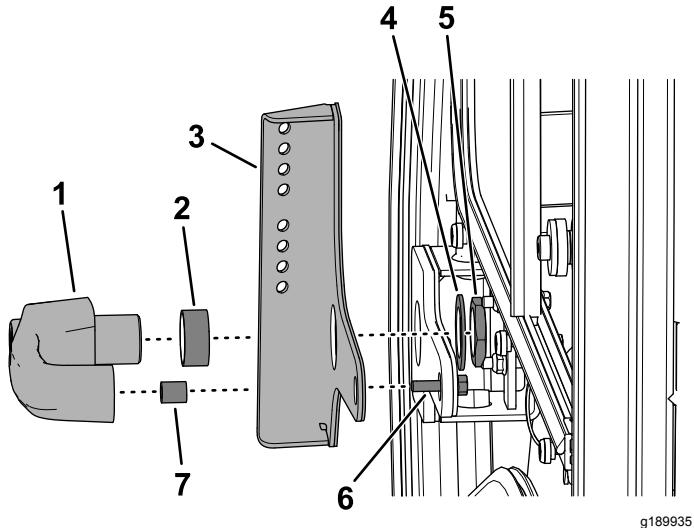

Figure 4
5. Install the door handle using the adhered mirror mount and the previously removed mounting nut, washer, flange-head bolt (6 x 25 mm), and 2 spacers (Figure 4).